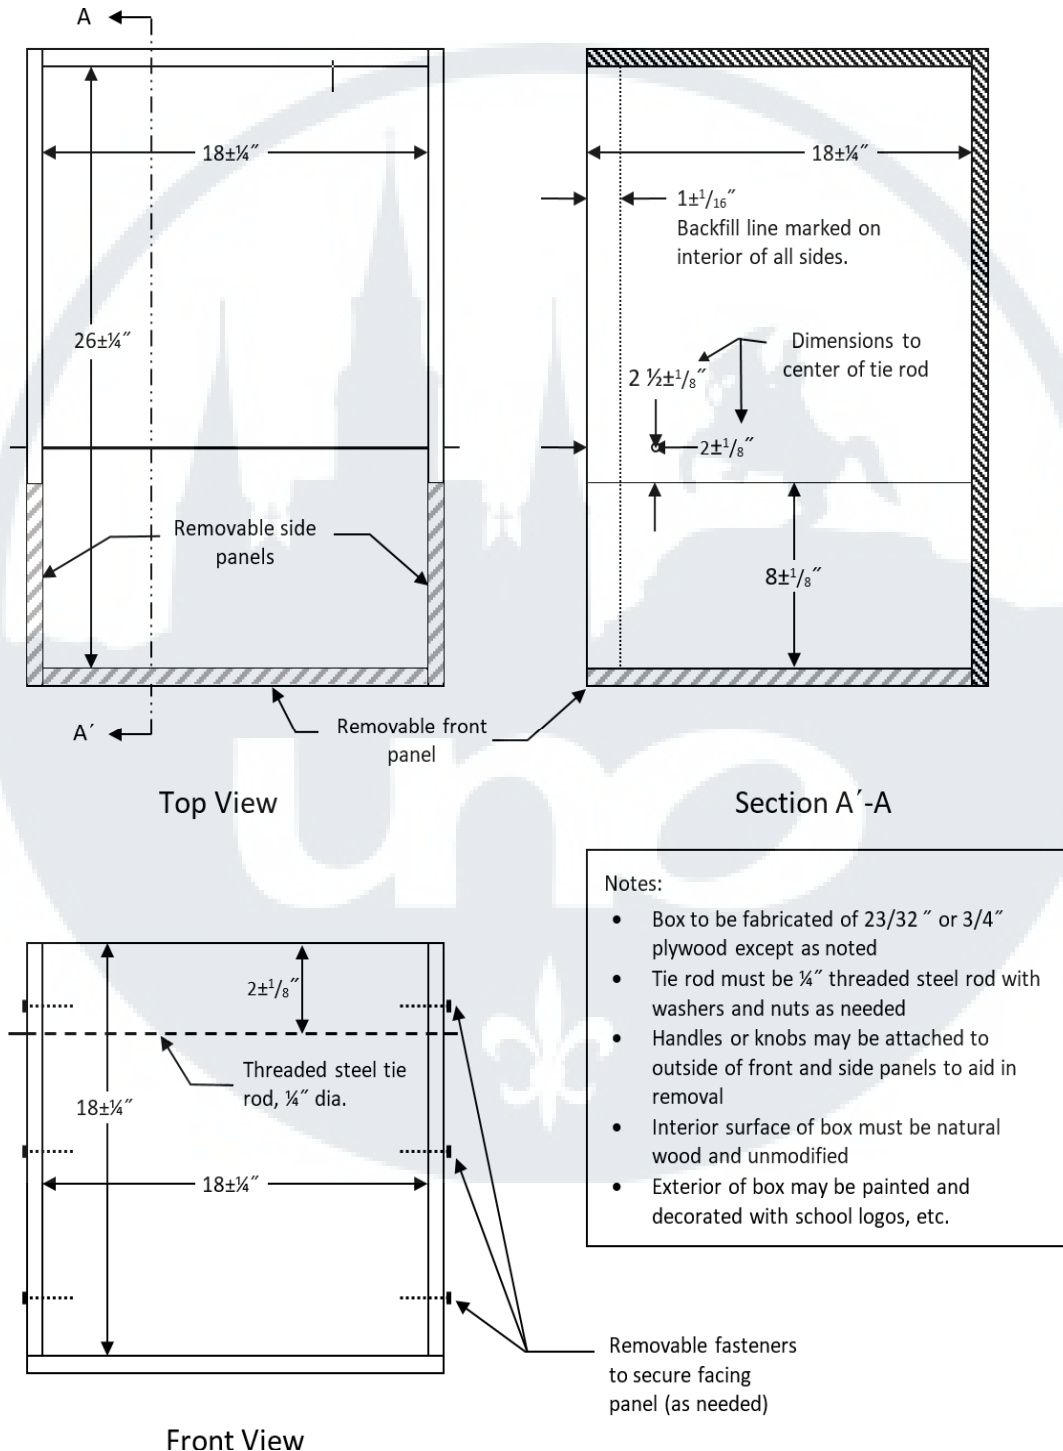
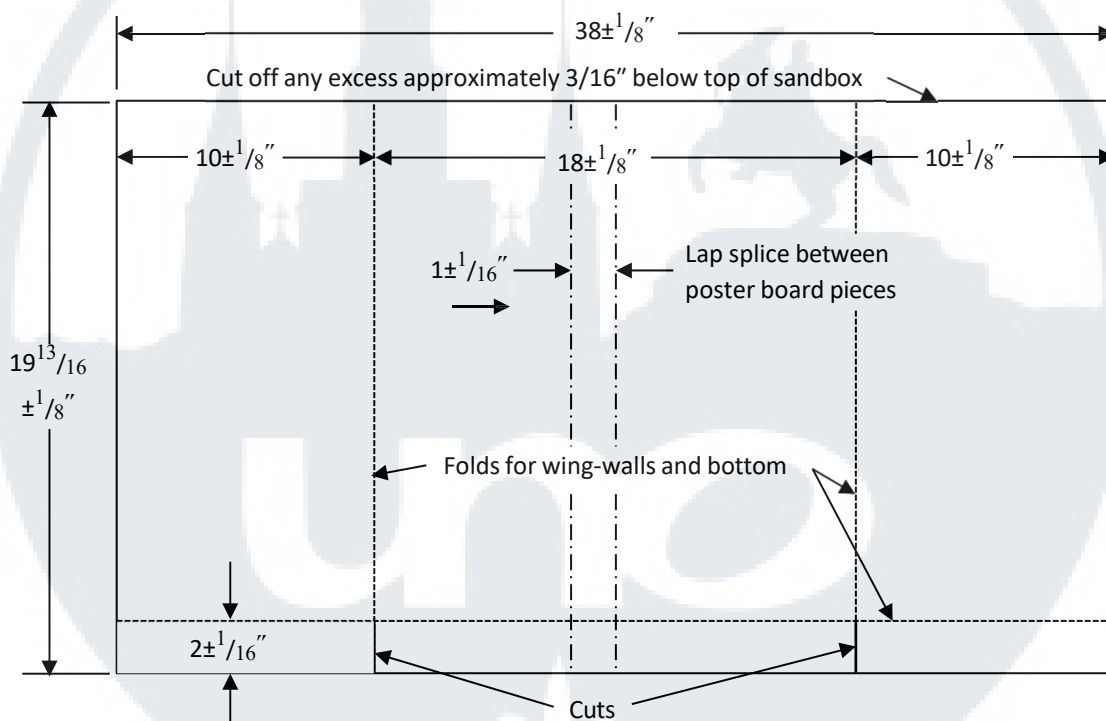

Figure 2: Sandbox dimensions (not to scale)
Figure 4: Dimensions of the poster board wall facing (not to scale)
**5. Sandbox** – The MSE wall will be constructed within an apparatus hereafter referred to as a sandbox. Each team shall bring their own sandbox to the competition. Painting and addition of school or sponsor logos and other decorations to the exterior of the sandbox is highly encouraged. The sandbox shall be made up of a bottom and four vertical sides with no top. The front panel and part of the two side panels will be removable as shown in Figure 2. The removable box panels will be in place during wall construction and removed after construction to expose the MSE wall. The sandbox shall meet the following requirements:
- c) Have removable front and side panels as shown in Figure 2. Panels must be flush with the base of the box and held in place with threaded inserts, screws, hinges, or other easily removable fasteners.
- g) All dimensions of the sandbox shall be as shown in Figure 2.
- a) Facing – Two pieces of poster board must be joined with a lap splice. See Figure 4 for dimensions.
- a) **Reinforcement Fabrication Stage** – Each team will be provided with a single sheet of 60 lb kraft paper approximately 24" × 24". The team must fabricate all their reinforcing elements from this sheet using authorized construction tools. Fifteen (15) minutes will be allotted for this stage. Teams will be penalized for time exceeding the time limit. After all reinforcing elements are fabricated, excess material will be disposed of and the judges will weigh the reinforcing elements to the nearest 0.01 grams.
- b) **Wall Assembly Stage** – After each team's reinforcing elements have been fabricated and weighed, the team will be provided with two sheets of poster-board (22" × 28") and a roll of packaging tape. The team must assemble their wall using these materials and authorized construction tools. Dimensions for the wall facing are shown in Figure 4.
- i) Tape may be used for only two purposes: 1) to join the two poster-board sheets along the lap splice (Figure 4) to form the wall facing and 2) to attach reinforcement to wall facing. The poster-board sheets must be joined using a single lap splice not exceeding 1" to form the wall facing. A single continuous strip of tape may be used on each side of the poster-board to join the poster-board sheets. The tape must be in contact with only the two poster-board sheets. No other adhesives may be used to join the poster-boards.
- iv) The wall should be trial-fitted to the sandbox during this stage. Any portion of the wall that rises above an imaginary line that is 3/16" below the top of the sandbox must be trimmed off. The assembly stage is complete when the facing material is properly folded and trimmed, all the reinforcing elements are attached to the facing, and the wall is placed in the sandbox. No sand is added to the box in this stage. Fifteen (15) minutes will be allotted for this stage. Teams will be penalized for time exceeding the time limit. Judges will check to ensure the wall is properly assembled.
- c) **Construction Stage** – After the wall is assembled and checked by the judges, the judges will instruct the team to start construction. During this stage, the team fills the box with sand so that the sand fill line (see Figure 2) is covered and the backfill is level, and places the empty rectangular vertical surcharge bucket on top of the sand. The facing material must be in direct contact with the inside of the sandbox at all times during this stage. The tie rod may be removed from the box at the start of this stage, but it must be in place before any sand is placed in the box. Temporary templates or guides may be used during this stage so long as they are removed before the end of the stage.